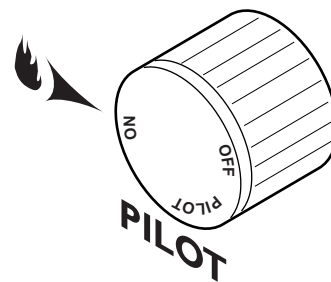

Figure 41 - On Position
Depress and turn the knob counterclockwise  to the “ON” position. *See Figure 41.* It will take less than four (4) seconds for the burner to ignite.